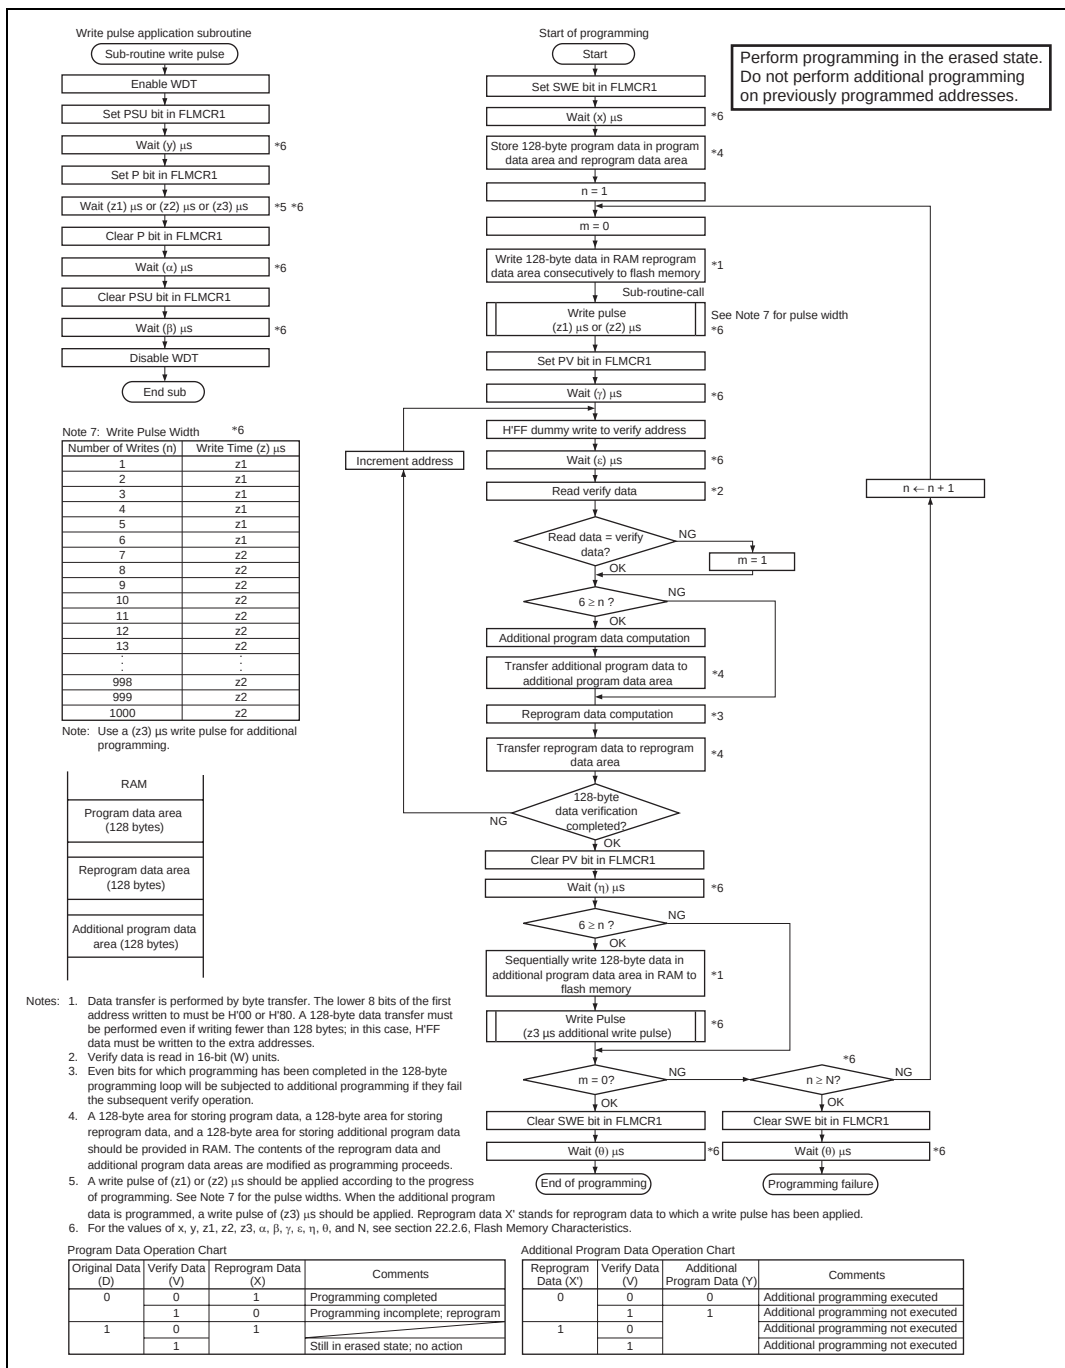

Figure 19.14 Program/Program-Verify Flowchart
Follow the procedure shown in the program/program-verify flowchart in figure 19.14 to write data or programs to flash memory. Performing program operations according to this flowchart will enable data or programs to be written to flash memory without subjecting the device to voltage stress or sacrificing program data reliability. Programming should be carried out 128 bytes at a time.
After the elapse of a given programming time, the programming mode is exited (the P bit in FLMCR1 is cleared to 0, then the PSU bit is cleared to 0 at least (α) μ s later). Next, the watchdog timer is cleared after the elapse of (β) μ s or more, and the operating mode is switched to program-verify mode by setting the PV bit in FLMCR1. Before reading in program-verify mode, a dummy write of H'FF data should be made to the addresses to be read. The dummy write should be executed after the elapse of (γ) μ s or more. When the flash memory is read in this state (verify data is read in 16-bit units), the data at the latched address is read. Wait at least (ϵ) μ s after the dummy write before performing this read operation. Next, the originally written data is compared with the verify data, and reprogram data is computed (see figure 19.14) and transferred to the reprogram data area. After 128 bytes of data have been verified, exit program-verify mode in FLMCR1 to 0, and wait again for at least (θ) μ s. If reprogramming is necessary, set program mode again, and repeat the program/program-verify sequence as before. However, ensure that the program/program-verify sequence is not repeated more than (N) times on the same bits.